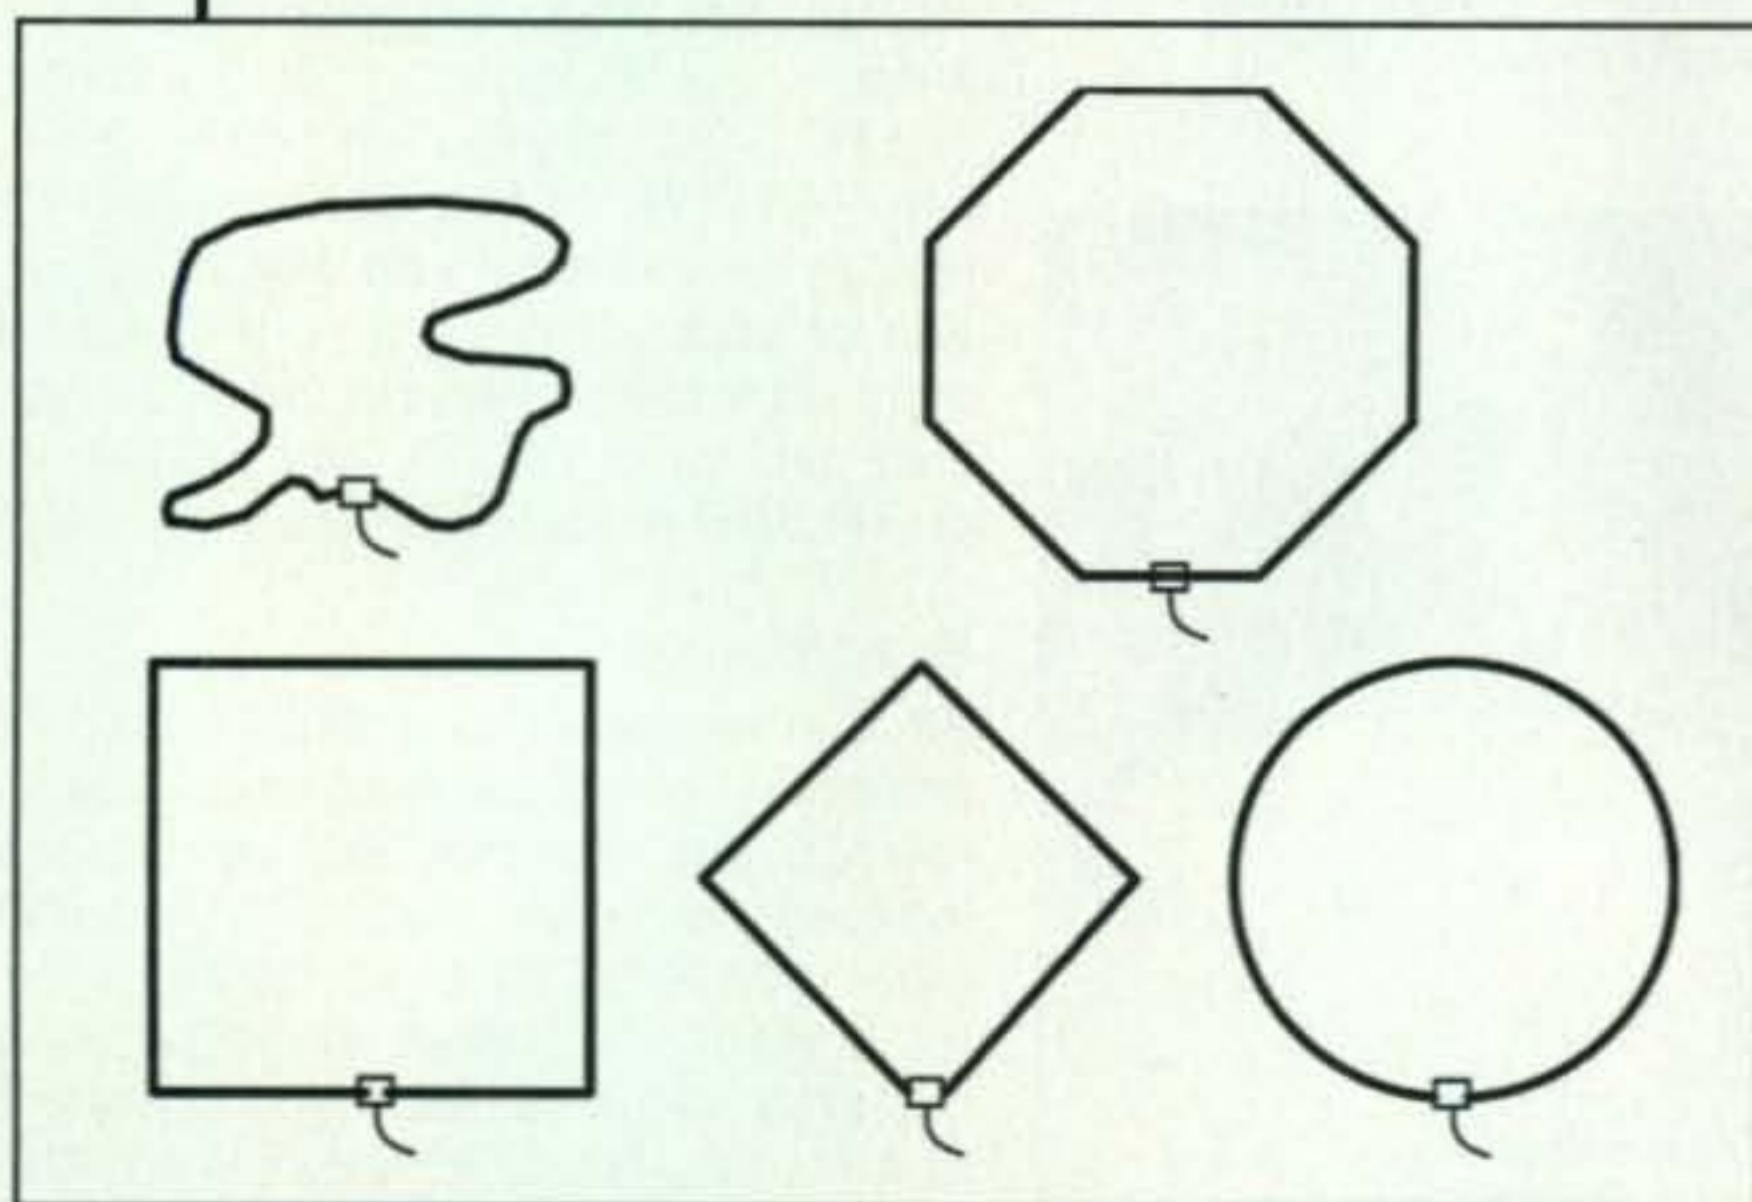

Fig. 1—Horizontally polarized loop antennas.
Fig. 1 shows a variety of loop shapes. In each case the loop is horizontally polarized when fed at the top or the bottom. The two most important factors for a loop antenna when transmitting are (1) the area inside the loop and (2) the resistance of